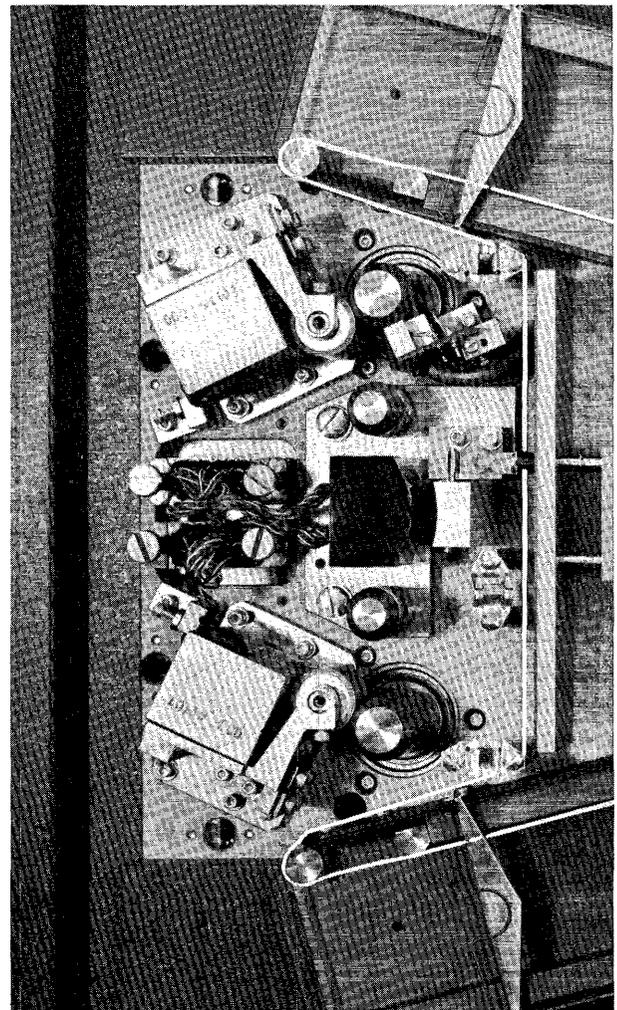

Figure 6-2
Step 2: Remove the capstan drive belt in order to disable capstan rotation. Thread the tape around the cover support posts as shown in Fig. 6-2. Place the Tape Transport in Forward Drive mode and sight along the normal tape path past the point where the forward (lower) pinchroller contacts the capstan. If any light can be seen coming past the contact point, the pinchroller is excessively worn, and should be replaced as described in the corrective maintenance section. Repeat for the other pinchroller.